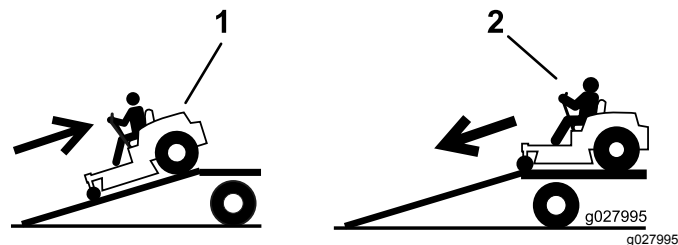

Figure 27
4. Back the machine up the ramp (Figure 27).
2. Drive the machine forward down the ramp (Figure 27).